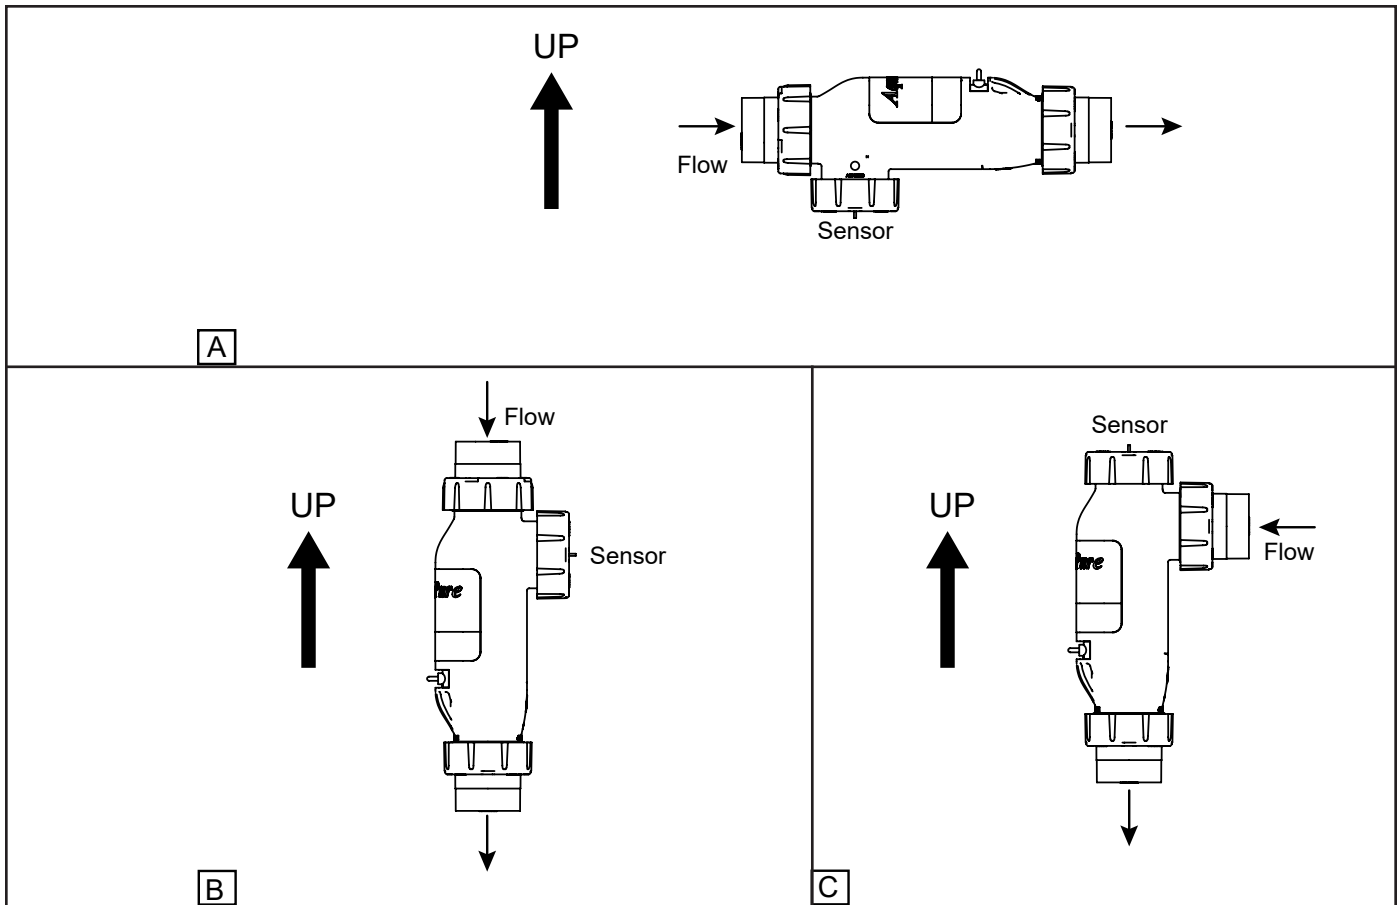

Figure 3. Chlorine Generator Cell and Sensor Orientation with Flow Direction
- The Flow/Temp/Salinity sensor must be mounted as shown in Figure 3.
2. It is recommended that the flow/temp/salinity sensor and electrolytic cell be installed in the pool return line after the filter and heater. The cell can be installed in either a horizontal or a vertical position. See Figure 3.